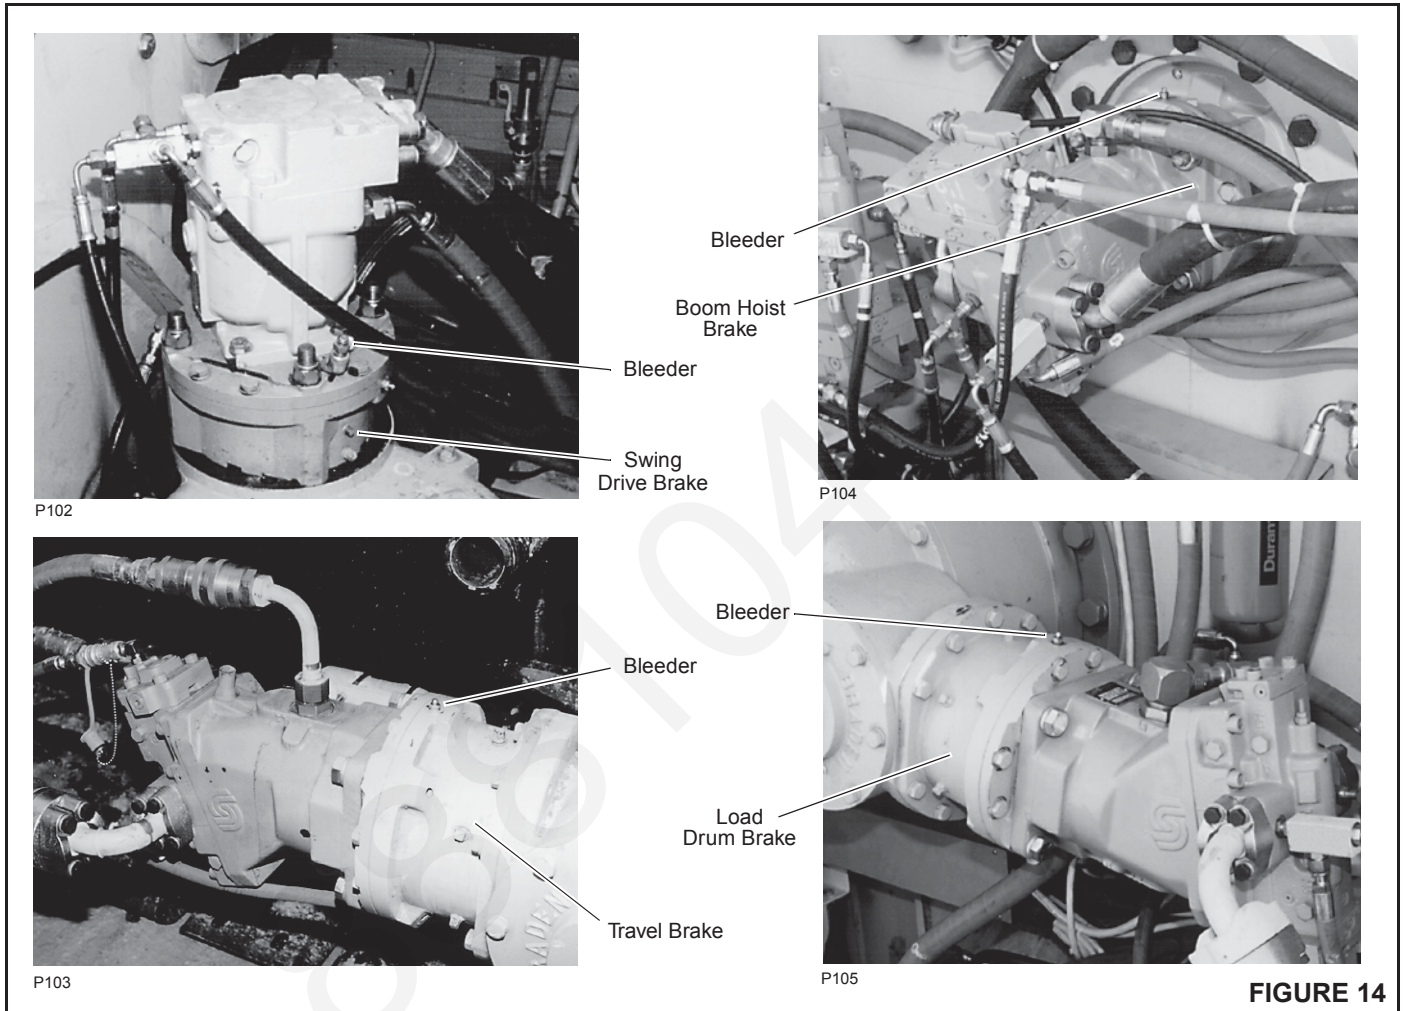

FIGURE 14
- a. Crack open bleed screw at desired brake (Figure 14).